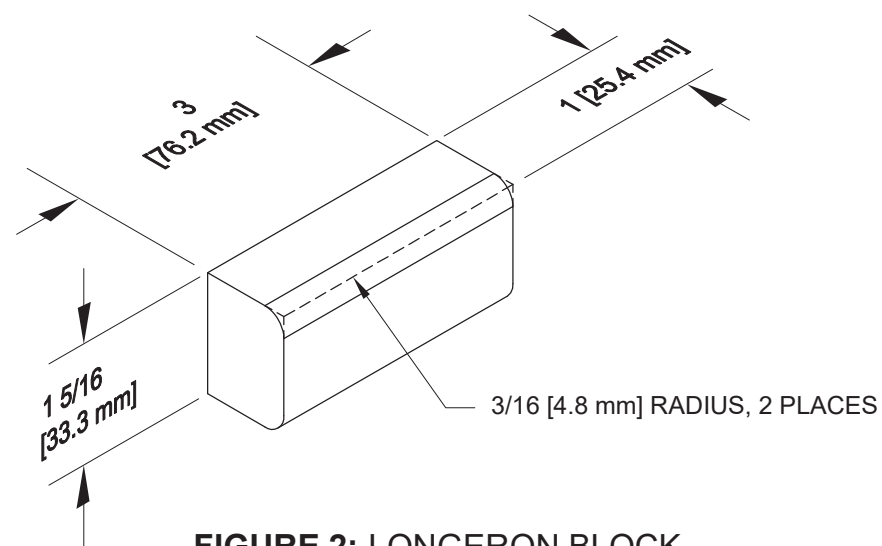

FIGURE 2: LONGERON BLOCK
Step 3: Fabricate two Longeron Blocks out of wood. See Figure 2.